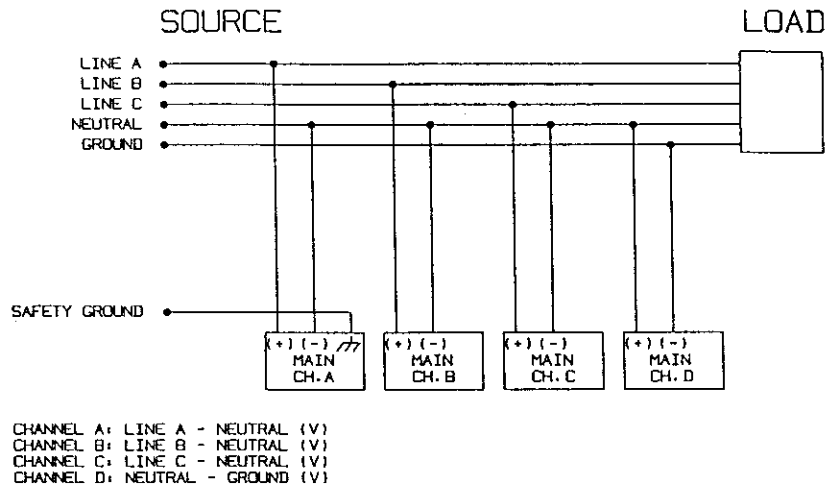

Figure 2-8. 277 VAC Three-Phase Wye Circuit with Neutral-to-Ground Connection
- The 658 can monitor Line A-to-Neutral, Line B-to-Neutral, Line C-to-Neutral, and Neutral-to-Ground voltages in a 3-phase "wye" system (see figure 2-8). This application would use all four Main channels. You could also monitor 3-phase current on channels B, C, and D while using channel A as the synchronization channel (illustrated in figure 2-9).